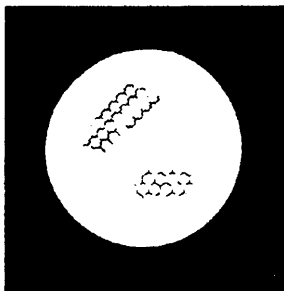

Figure 3-11. Chicken Wire.
h. Chicken Wire. An irregular pattern of dark thin lines in the field of view either throughout the image area or in parts of the image area (see Figure 3-11). Under the worst case condition, these lines will form hexagonal or square-wave shaped lines. Chicken wire is acceptable as long as it does not interfere with the operator's ability to perform the mission.